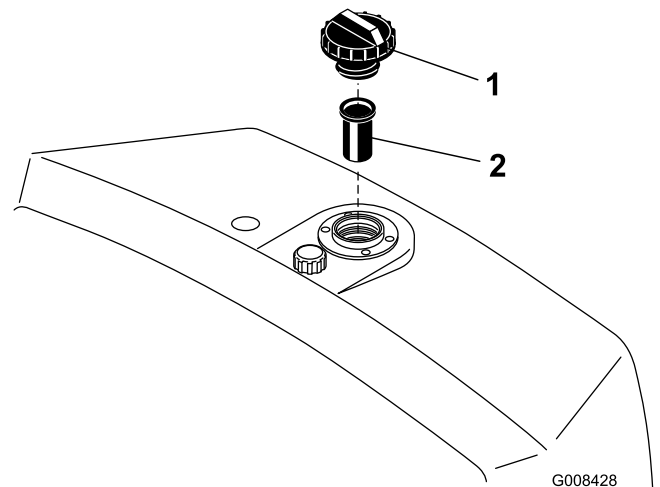

Figure 33
2. Remove the cap from the reservoir and check the level of fluid. The fluid should be up to the bottom of the screen in the filler neck (Figure 33).